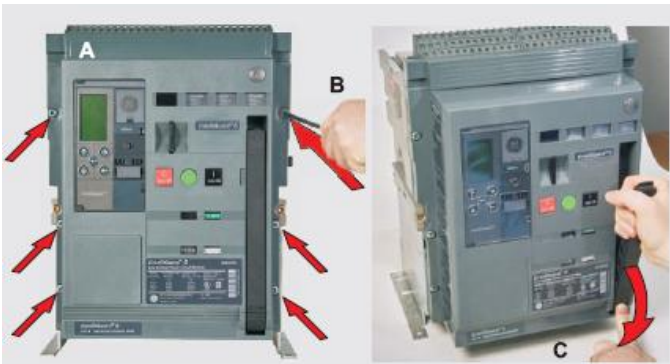

Figure 1. (B) Screw Removal (C) Handle Rotation
2. Loosen the 6 screws on front cover (fascia) using a posidrive screw driver as shown in Fig 1.B Rotate the charging handle down and slide the front cover over the handle to remove the front cover as shown in Fig. 1.C.